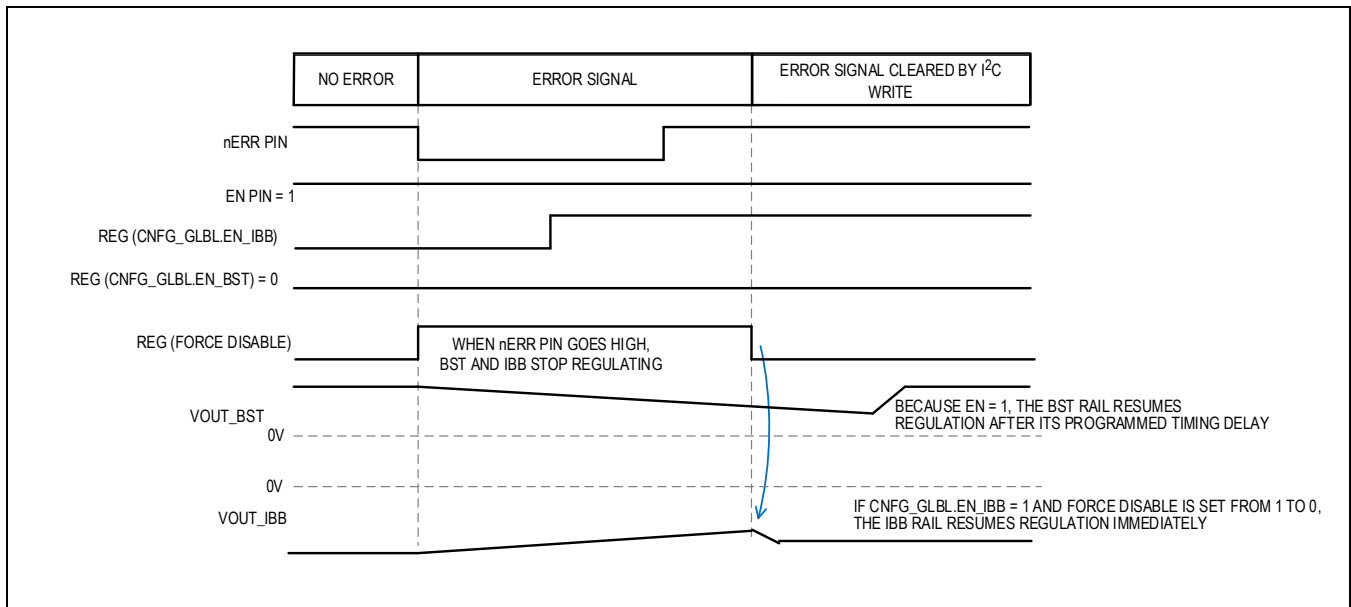
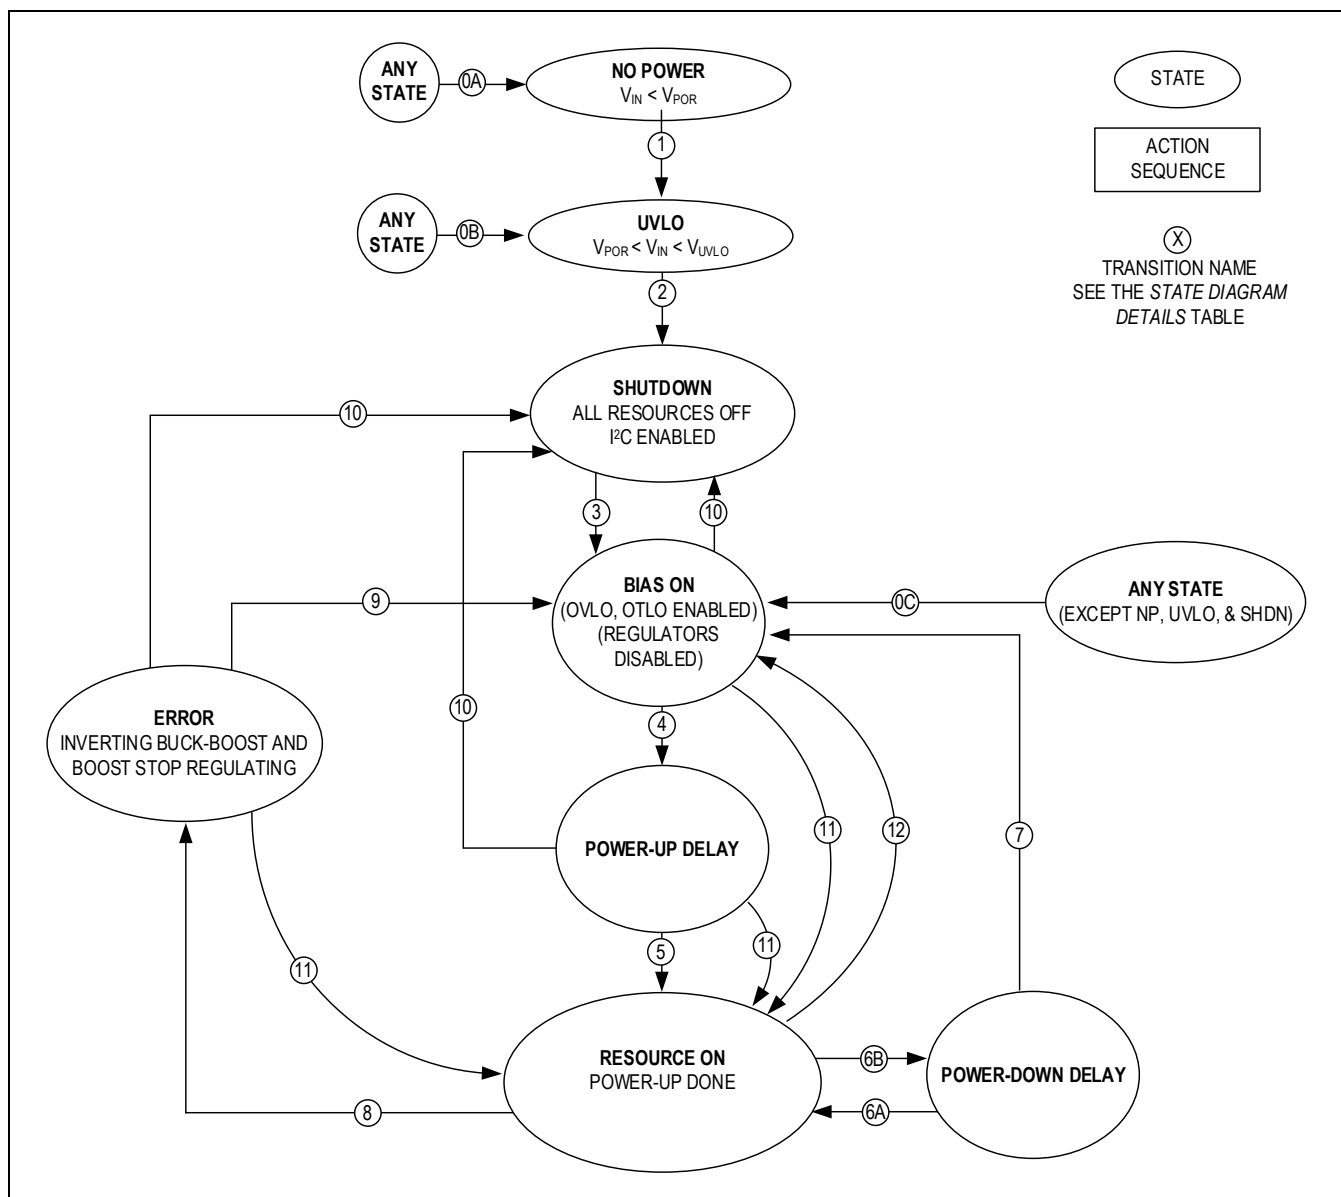

Figure 6. Re-Enabling Regulator Using the CNFG_GLBL.EN_IBB Bit
Figure 7. Top-Level State Diagram
When the EN pin is pulled low ($V_{EN} < V_{EN_IL}$), the MAX77720 goes into the shutdown state. While in the shutdown state, both regulators are not switching but are still programmable through I²C. See Figure 7 and Table 4 for details. The current consumed in this mode is $235\mu A$ if the main bias is on with no regulators enabled.
2. After the nERR pin returns high, regulation for both the inverting buck-boost and boost converter can be enabled individually through I²C by writing to registers CNFG_GLBL.FORCE_IBB_ON = 1 or CNFG_GLBL.FORCE_BST_ON = 1 and by writing CNFG_GLBL.FORCE_DIS = 0. If CNFG_GLBL.FORCE_XXX_ON = 1, no timing delay is implemented for the regulator to resume regulation. If the EN pin is still held high, while only one CNFG_GLBL.FORCE_XXX_ON = 1, the other regulator resumes regulation after its programmed timing delay. Figure 6 shows this behavior with the CNFG_GLBL.FORCE_IBB_ON = 1 scenario. Figure 7 and Table 4 show the top-level system flow to resume regulation.
Figure 7 and Table 4 describe from a top level the different conditions to enable or disable resources (e.g., switching regulators) in the MAX77720. Figure 7 organizes the device's behavior as a set of states (shown in bubbles). For example, the shutdown state is a state in which all regulators and the bias are disabled and the device draws the lowest current from the input. Table 4 details the conditions to trigger transitions between two states. For example, to wake up the device and start the power-up sequence (transition 3 to 4 and transition 4 to 5), apply a high signal to the EN pin.